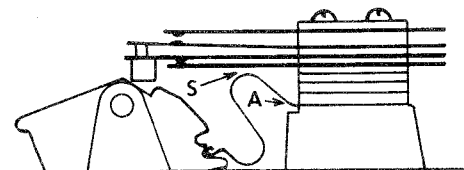

Figure 2 - Spring Return Action
7. The "S" spring will now have to be adjusted as shown in Figure 2. First make sure that free end of the spring is in the proper notch in rocker as shown in Figure 2.
8. With long nose pliers, grasp the spring at point A, where it emerges from the stack. Bend the spring counterclockwise with the pliers so that it clears the bottom blade by 1/32 to 1/16 inch, no more. Refer to point S in Figure 2.